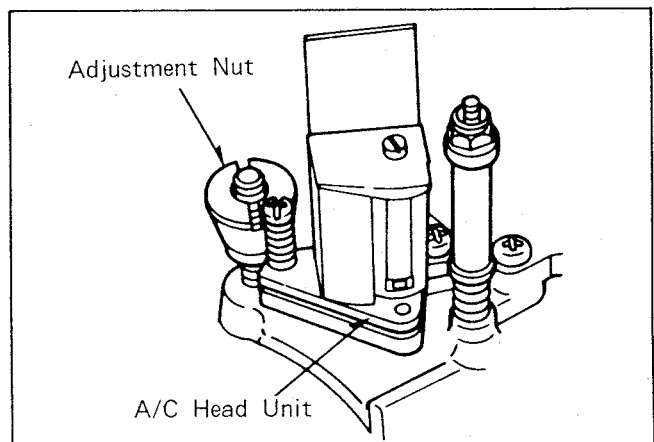

Fig. M16
- Adjust the adjust screw so that the RF envelope output level becomes is maximum at the detent position (Fig.M16,M17).